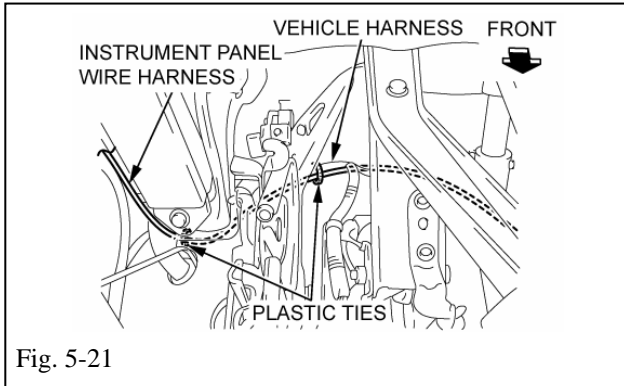

Fig. 5-21
(z) Secure the I/P W to the vehicle wire harness using two (2) plastic ties (150 mm black). (Fig. 5-21)